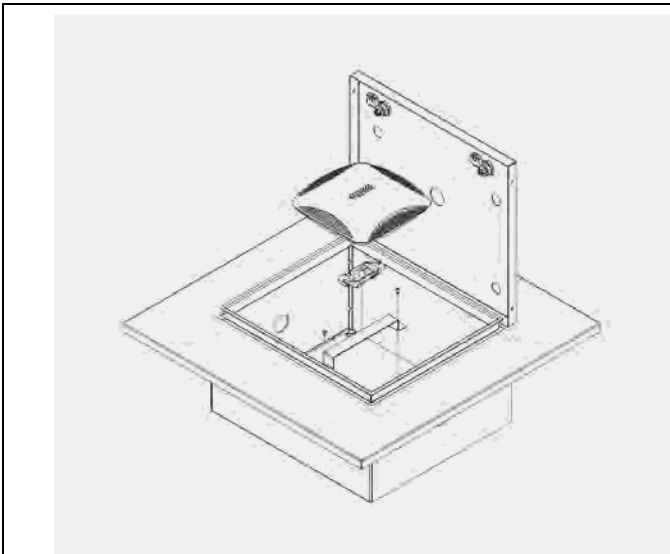

Figure 2
Step 2b – (Any manufacturer's access points) Install the provided "T-Bar" bracket by fastening two (2) #8 screws into the enclosure mounting plate. Attach the access point to the T-Bar bracket using the manufacturer's instructions for attaching the access point to a ceiling tile grid (T-Bar). (Figure 2).